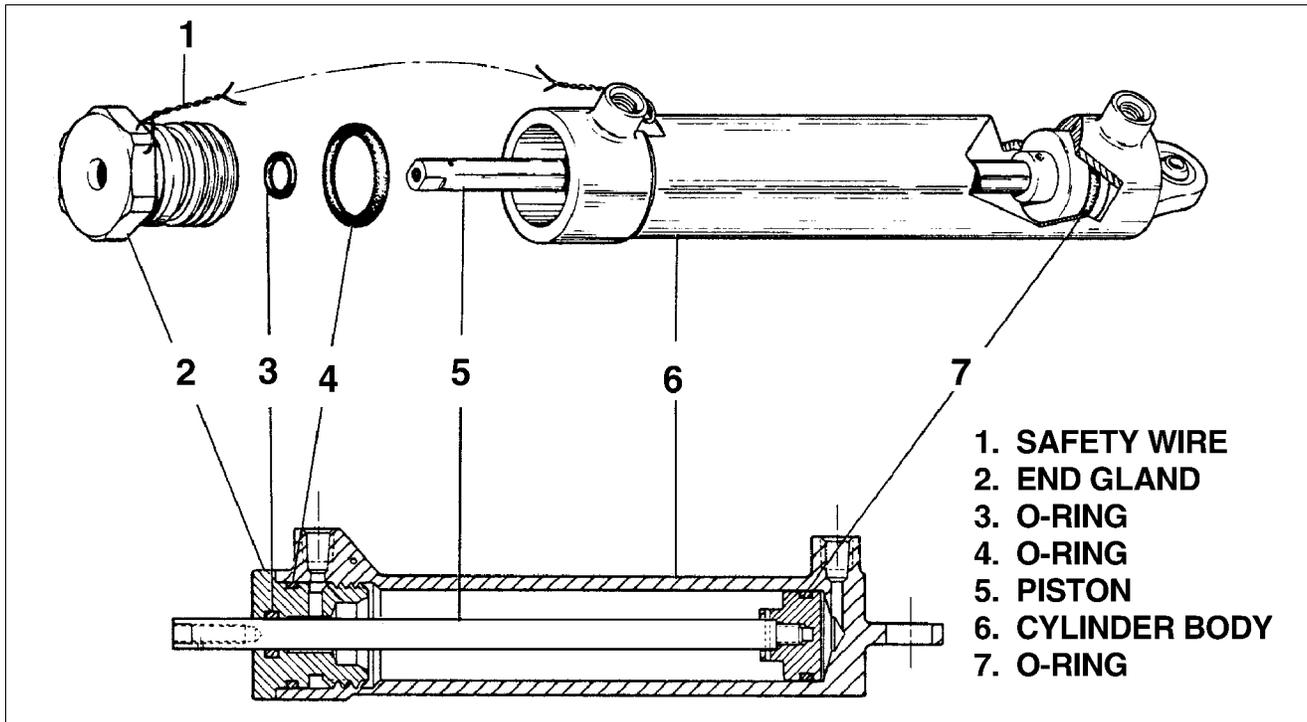

Figure 32-13. Nose Gear Actuating Cylinder
- (1) Removal of Nose Gear Actuating Cylinder.
- (2) Disassembly of Nose Gear Actuating Cylinder (Refer to Figure 32-13.)
- (3) Cleaning, Inspection, and Repair of Nose Gear Actuating Cylinder
- (4) Assembly of Nose Gear Actuating Cylinder (Refer to Figure 32-13)
- (5) Installation of Nose Gear Actuating Cylinder